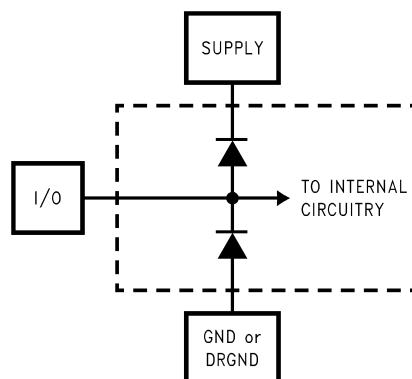

Figure 1.
- (1) The inputs are protected as shown below. Input voltage magnitudes above V_A or below GND will not damage this device, provided current is limited per ⁰. However, errors in the A/D conversion can occur if the input goes above V_A or below GND by more than 100 mV. As an example, if V_A is 4.75V, the full-scale input voltage must be $\leq 4.85V$ to ensure accurate conversions. See Figure 1
- (2) To ensure accuracy, it is required that $|V_A - V_D| \leq 100\text{ mV}$ and separate bypass capacitors are used at each power supply pin.
- (3) With the test condition for $V_{REF} = +2.0V$ (4V_{P-P} differential input), the 12-bit LSB is 977 μV .
- (4) Typical figures are at $T_A = T_J = 25^\circ\text{C}$, and represent most likely parametric norms. Test limits are specified to TI's AOQL (Average Outgoing Quality Level).
- (5) Integral Non Linearity is defined as the deviation of the analog value, expressed in LSBs, from the straight line that passes through positive and negative full-scale.
- (6) Optimum performance will be obtained by keeping the reference input in the 1.8V to 2.2V range. The LM4051CIM3-ADJ (SOT-23 package) is recommended for this application.
- (5) Typical figures are at $T_A = T_J = 25^\circ\text{C}$, and represent most likely parametric norms. Test limits are specified to TI's AOQL (Average Outgoing Quality Level).
- (6) I_{DR} is the current consumed by the switching of the output drivers and is primarily determined by load capacitance on the output pins, the supply voltage, V_{DR} , and the rate at which the outputs are switching (which is signal dependent). $I_{DR} = V_{DR}(C_0 \times f_0 + C_1 \times f_1 + \dots C_{11} \times f_{11})$ where V_{DR} is the output driver power supply voltage, C_n is total capacitance on the output pin, and f_n is the average frequency at which that pin is toggling.
- (7) Excludes I_{DR} . See previous note.
- (2) To ensure accuracy, it is required that $|V_A - V_D| \leq 100$ mV and separate bypass capacitors are used at each power supply pin.
- (4) Timing specifications are tested at TTL logic levels, $V_{IL} = 0.4V$ for a falling edge and $V_{IH} = 2.4V$ for a rising edge.
- (5) Typical figures are at $T_A = T_J = 25^\circ C$, and represent most likely parametric norms. Test limits are specified to TI's AOQL (Average Outgoing Quality Level).